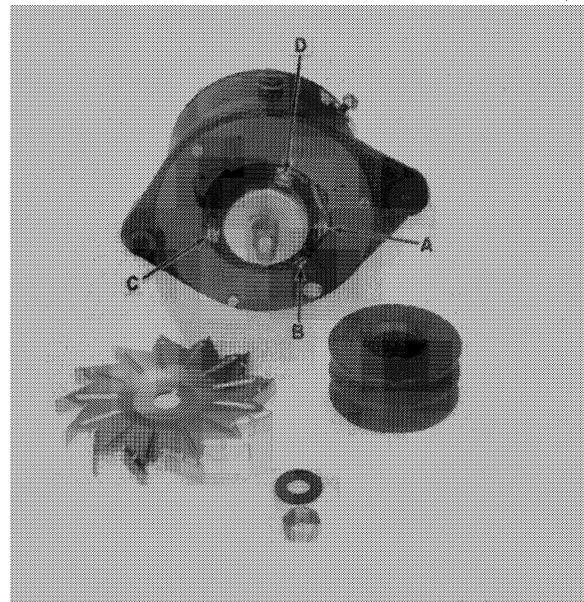

FIGURE 11
3. Slide sheave and fan off the shaft. See Figure 11.